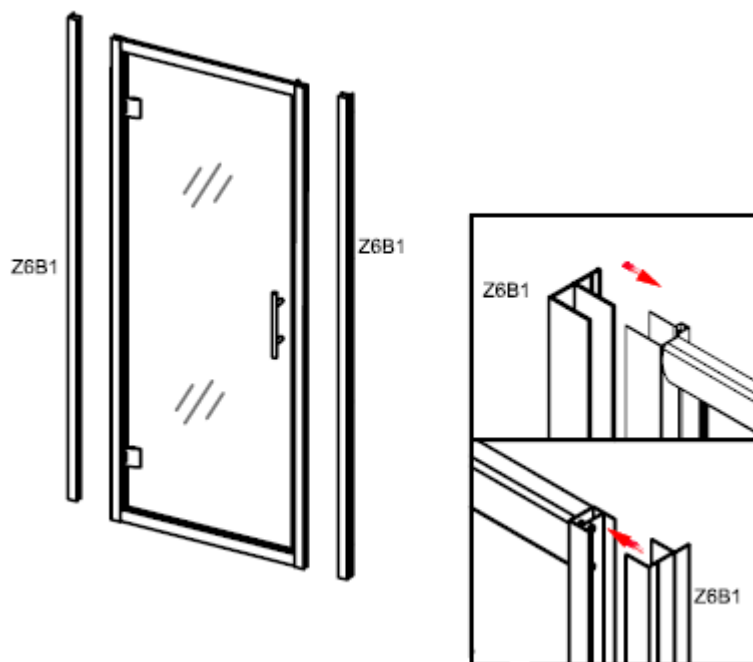

Figure 4
4. Place the wall profile(Z6B1) over the fixed profile(Z6B2) and door profile,as showed in figure 4.